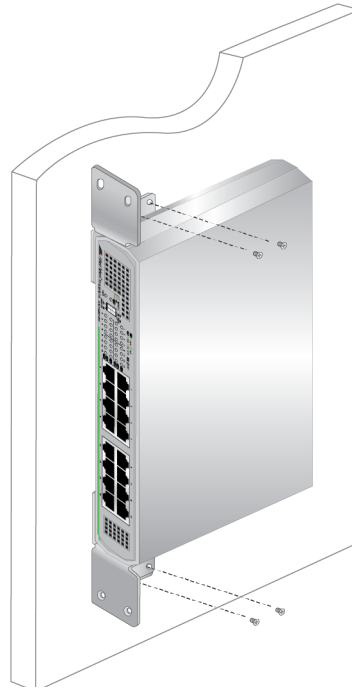

Figure 22. Driving the Screws through the Holes
7. Position the switch on the wall and drive screws through the holes to attach the brackets on the wall. See Figure 22.